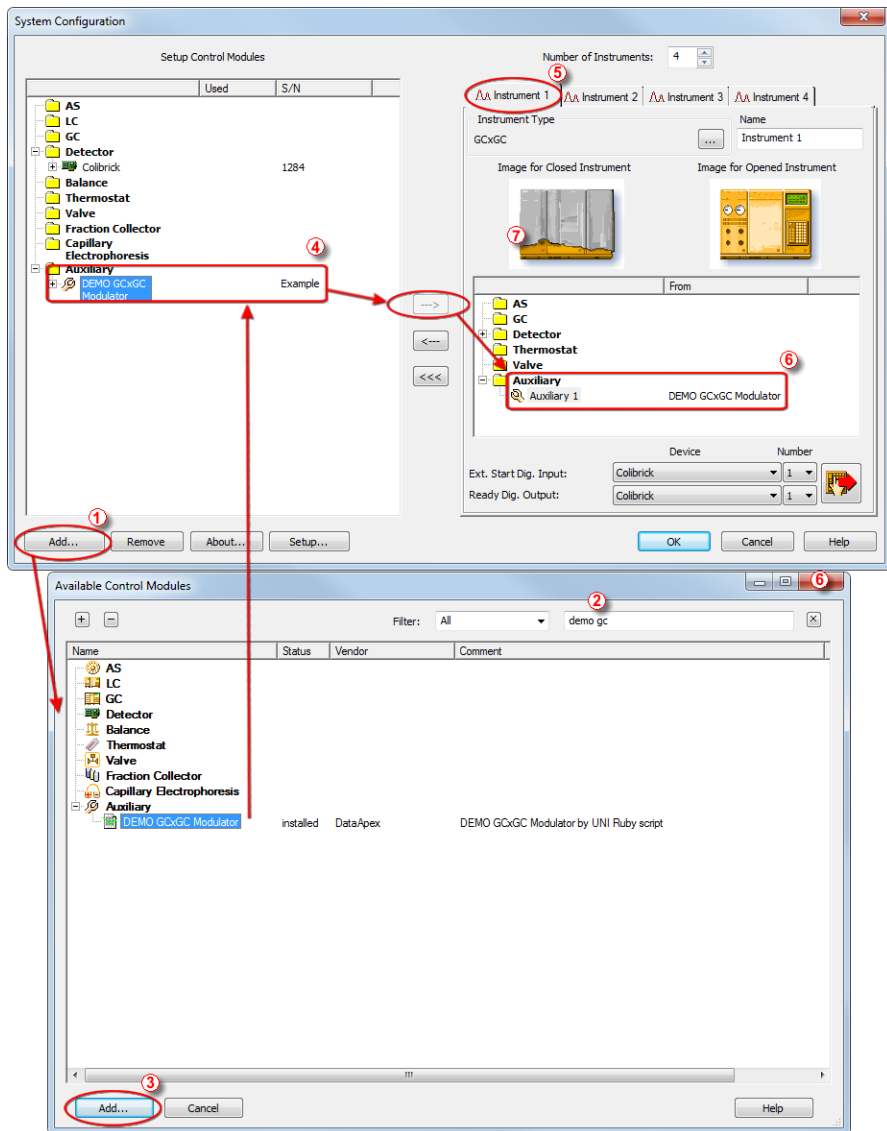

Fig 1: How to Add UNI Ruby module
- Press the **Add** button (① on **Fig 1** on pg 3.) to invoke the **Available Control Modules** dialog.
- You can specify the search filter (②) to simplify the finding of the driver.
- Select the correct item and press the **Add** (③ on **Fig 1** on pg 3.) button. Each device with already created UNI profile should have its own item named accordingly in the **Available Control Modules** dialog.